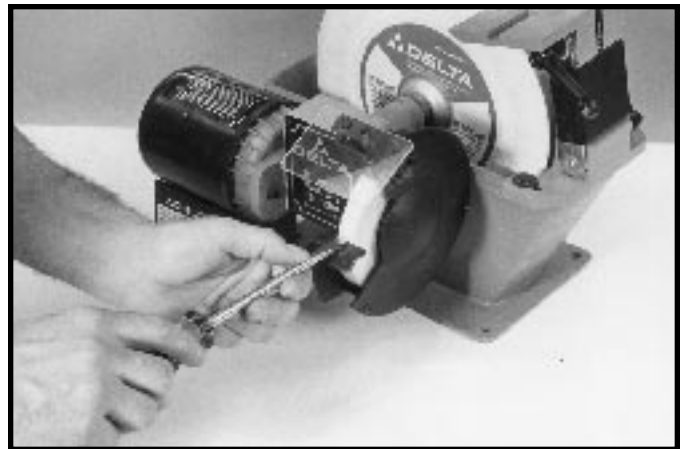
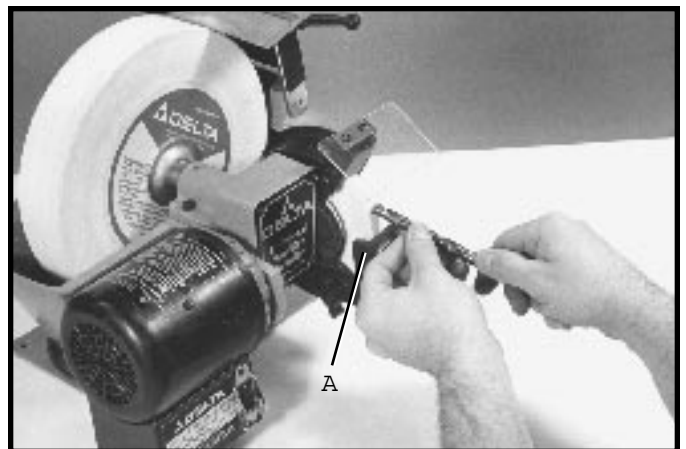

Fig. 24
Fig. 25
The five inch diameter aluminum oxide grinding wheel operates at 3450 RPM and is used for many grinding operations, such as pointing screwdrivers as shown in Fig. 24. Scissors, putty knives, wood chisels and drill bits such as shown in Fig. 25, can also be sharpened easily on the five inch grinding wheel.
Set the tool rest (A) Fig. 25, slightly below the center of the grinding wheel for general work and adjust it so it supports the tool at the proper grinding angle. Make certain all safety precautions are taken before applying power to the machine.